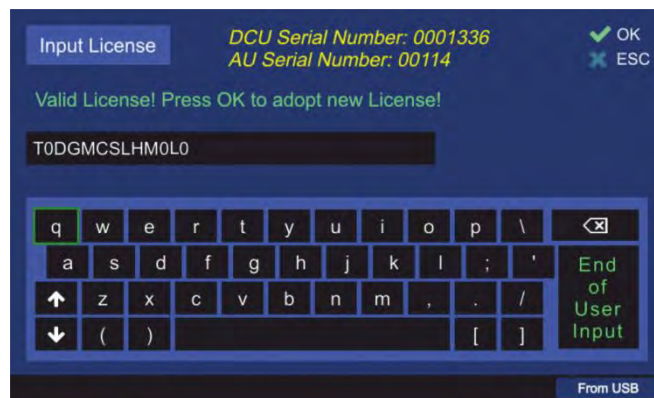

Figure 132. Input of a new license from USB
- o After a valid license code was inputted, the device will show the message “Valid License!” and ask for confirming the action of adopting the new license (s. Figure 132).